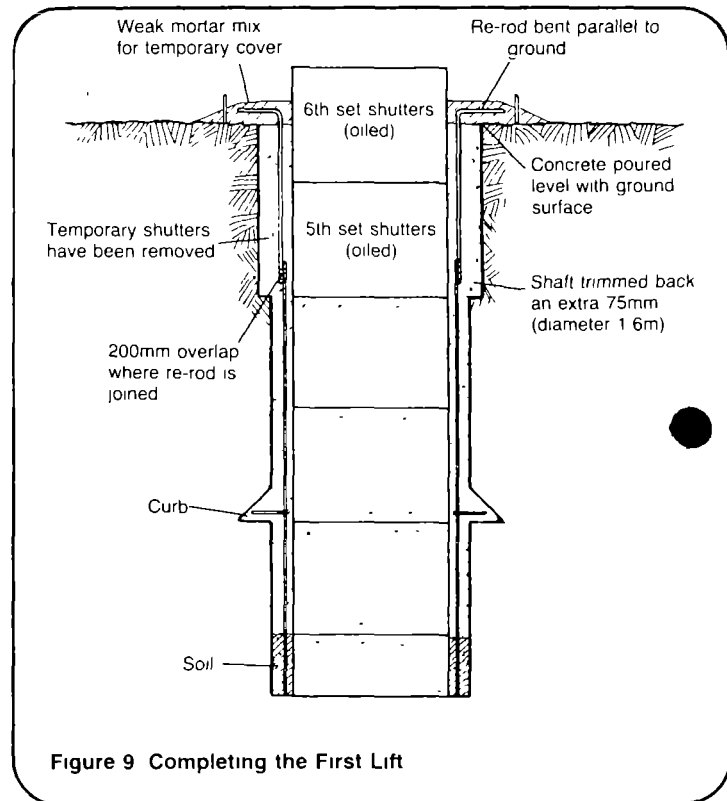

Figure 9 Completing the First Lift
at least 200mm as shown in Figure 9. The new re-rods should protrude above ground about 200mm. Position circles of horizontal re-rods 250-300mm apart and fasten them to the vertical re-rods. Remove the burlap from the concrete.
17. Oil the fifth and sixth sets of shutters in turn, set them in place, check their positioning with trimming rods and a spirit level, and bolt them together. Pour concrete as before, and carefully fill in the space behind the shutters up to ground level as shown in Figure 9. The extra thickness of concrete in the top 1.5m of the lining will provide a solid base for the wellhead. See "Finishing Wells," RWS.2.C.8.
18. Bend back the protruding vertical rods until they are level with the ground. Make a weak mortar mix (1 part cement to 15 parts sand), and use it to cover the re-rods and form a lip around the well as shown in Figure 9. This mortar layer will help keep surface water and debris out of the well, and it can be easily broken away when it is time to build the wellhead.